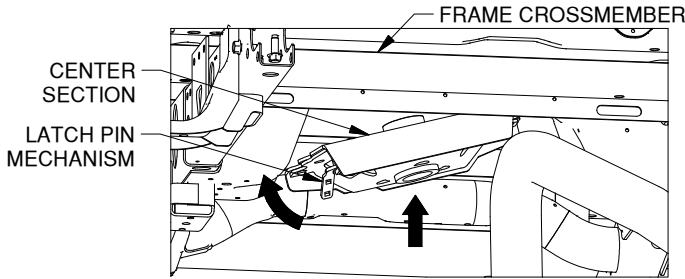

Figure B5: Looking from rear towards cab.
- 3. Install the center section.** With the latch pin mechanism on the driver side, raise the center section into place as shown, see figure B5. In order to clear structures under the truck bed, the center will have to be lifted into place on an angle over the exhaust, then positioned directly under the frame cross member so that the raised portion of the center can be pushed straight up through the hole in the frame cross member, and through the hole in the plastic spacer block. Having assistance in the bed to guide the top of the center section is recommended. Line the 6 holes in the center section up with the frame holes and the holes in the threaded blocks. Thread a 5/8 flange head bolt into each hole. Next, run the bolts in until they are about 1/16" from being tight.